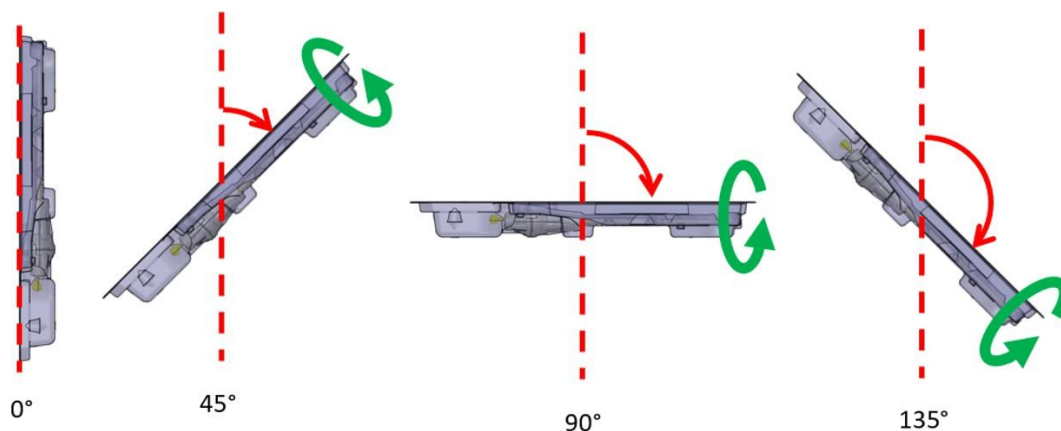

Figure 13: Recommended procedure for purging air from ultrasound applicator
- b. While the purging operation is on, hold the UA in its package—to keep the UA sterile, be careful not to touch the UA handle. Tip the package upwards in the 0° position, then tilt to approximately 45°, then 90°, and 135°. At each angle, slowly rotate the package approximately 360° and tap continuously along the packaging to dislodge any bubbles in the handle and shaft (*Figure 13*).